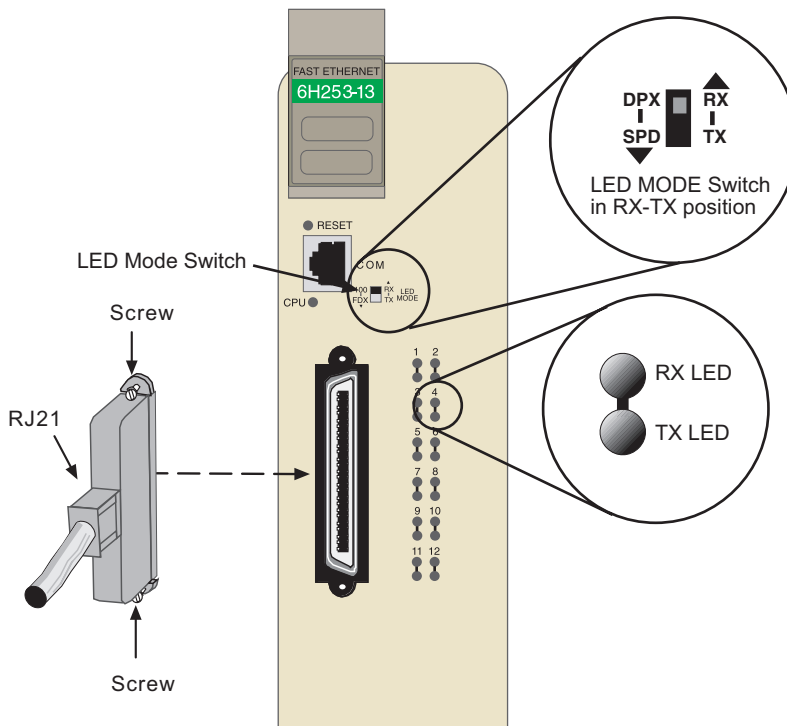

Figure 3-2 Connecting a Twisted Pair Segment to the SmartSwitch
2. Connect the Twisted Pair segments to the 6H203-24 or 6H253-13 by connecting the RJ21 connector cable end to the RJ21 port as shown in Figure 3-2. The connector with the cable on it must be connected to the premises wiring with the proper cross-over or straight-through connections as dictated by the device on the other side. All screws should be tightened on the RJ21s to prevent bad connections. Refer to the Cabletron Systems *Cabling Guide* for details.